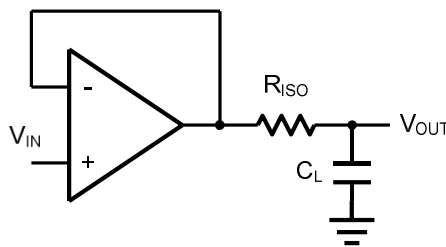
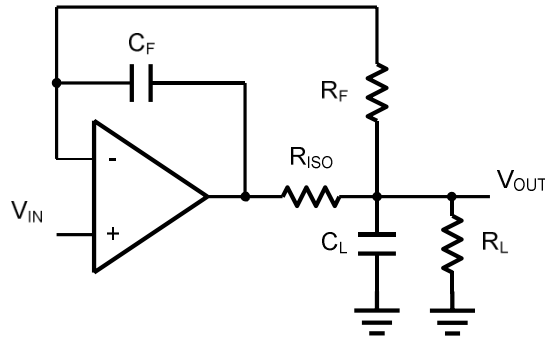

Figure 2. Indirectly Driving a Capacities Load Using Isolation Resistor
Figure 3. Indirectly Driving a Capacities Load with DC Accuracy
The HX855x family is optimized for bandwidth and speed, not for driving capacitive loads. Output capacitance will create a pole in the amplifier's feedback path, leading to excessive peaking and potential oscillation. If dealing with load capacitance is a requirement of the application, the two strategies to consider are (1) using a small resistor in series with the amplifier's output and the load capacitance and (2) reducing the bandwidth of the amplifier's feedback loop by increasing the overall noise gain. Figure 2. shows a unity gain follower using the series resistor strategy. The resistor isolates the output from the capacitance and, more importantly, creates a zero in the feedback path that compensates for the pole created by the output capacitance.
The circuit in Figure 3 is an improvement to the one in Figure 2. RF provides the DC accuracy by feed-forward the VIN to RL. CF and RISO serve to counteract the loss of phase margin by feeding the high frequency component of the output signal back to the amplifier's inverting input, thereby preserving the phase margin in the overall feedback loop.